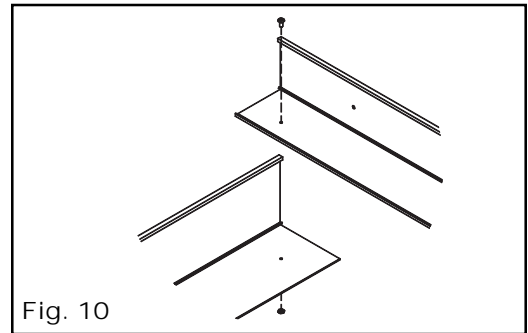

Fig. 10
9. Position bolt and nut or rivot as shown in **Fig. 10** to lock track assembly onto end support and tighten.